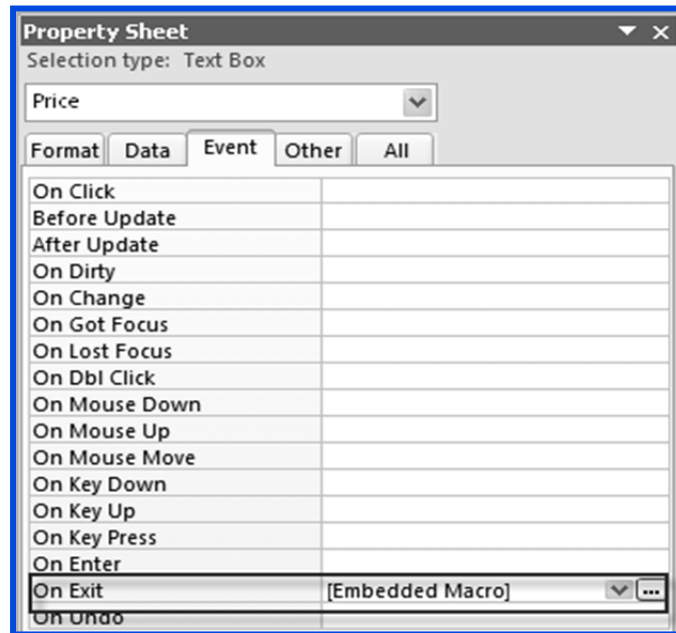

Fig. 4.2.46: Property Sheet
10. The created *macro* gets embedded in the *On Exit* event property of the *Price TextBox* control. *Property Sheet* appears, as shown in Fig. 4.2.46.